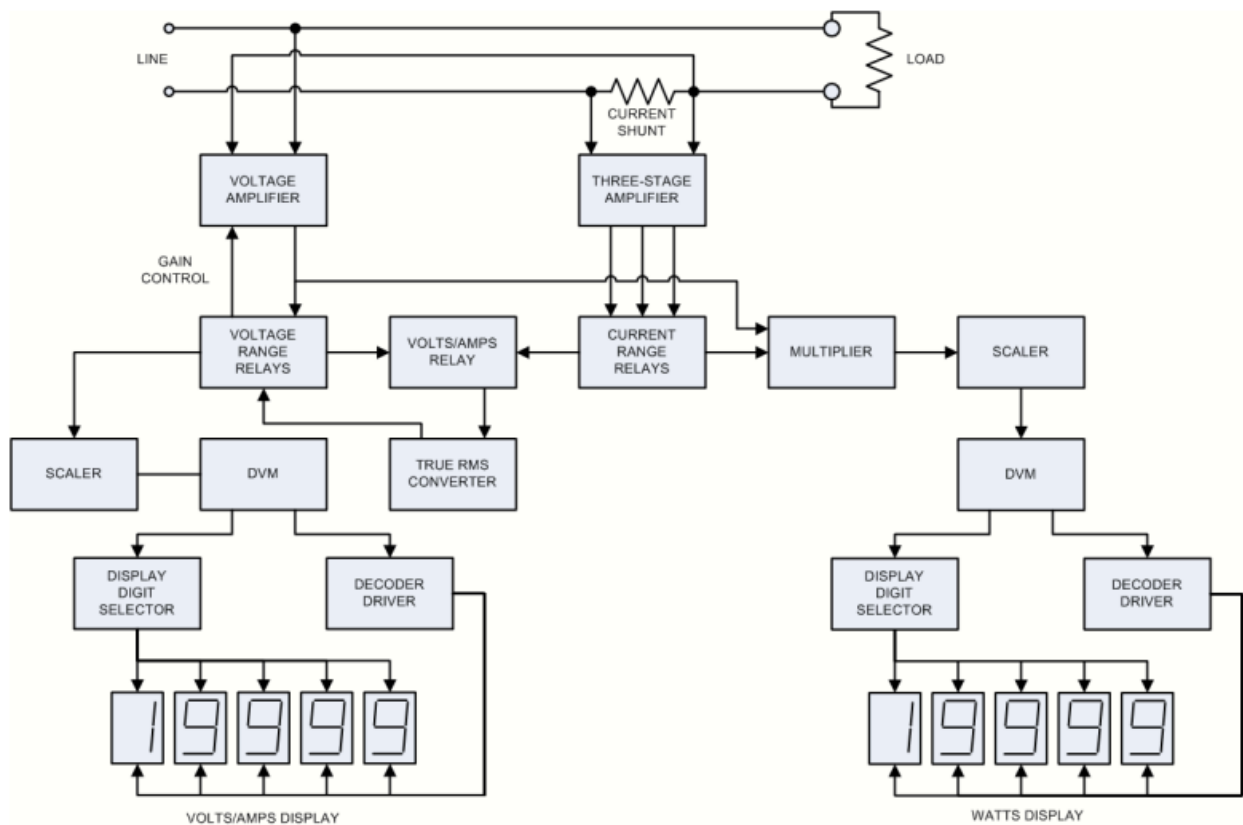

Figure 7-1 | 2105 Block Diagram
- A block diagram of the Model 2105 is shown in Figure 7-1. Power for the load under test is connected to one set of rear panel terminals and passes through the instrument to a second set of terminals where the external load under test is connected. A  $0.01\Omega$  current shunt is installed between one input terminal and one output terminal. The inputs to the voltage amplifier are connected to both power line terminals. The inputs to the three-stage current amplifier are connected across the current shunt.